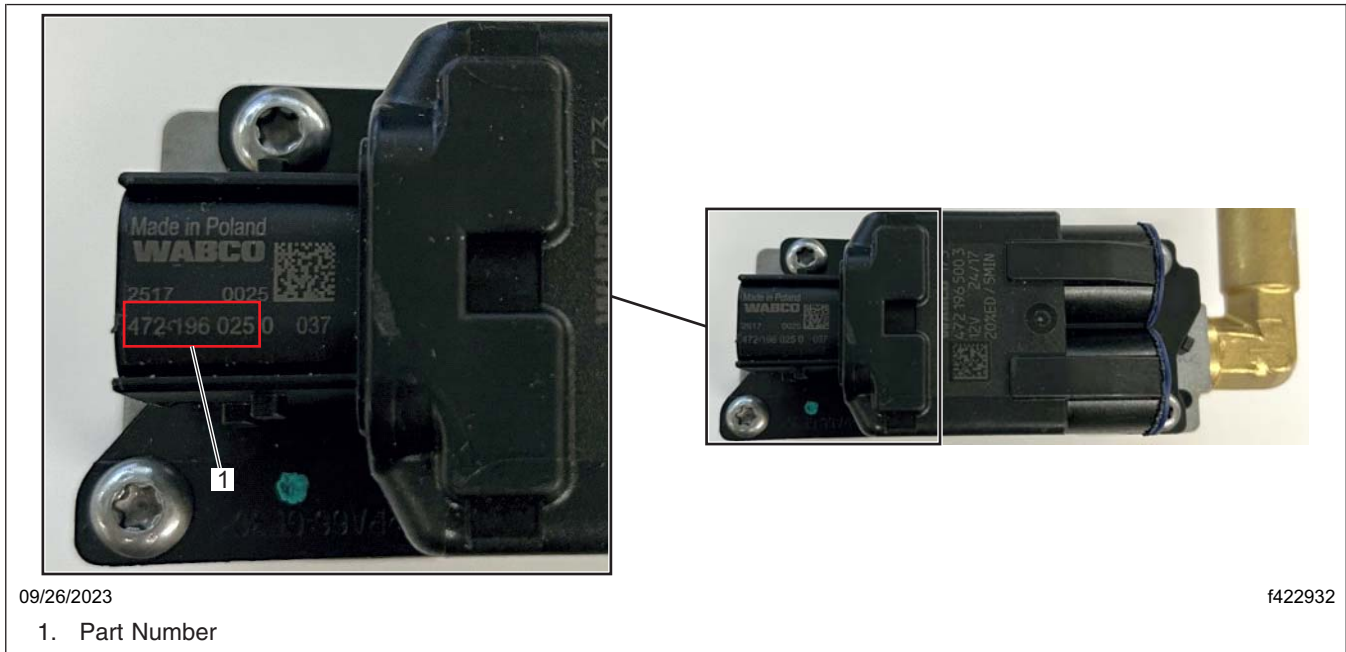

Fig. 1, Modulator Valve
4. Remove the connector from the valve, and inspect the part number underneath the connector. See Fig. 1.